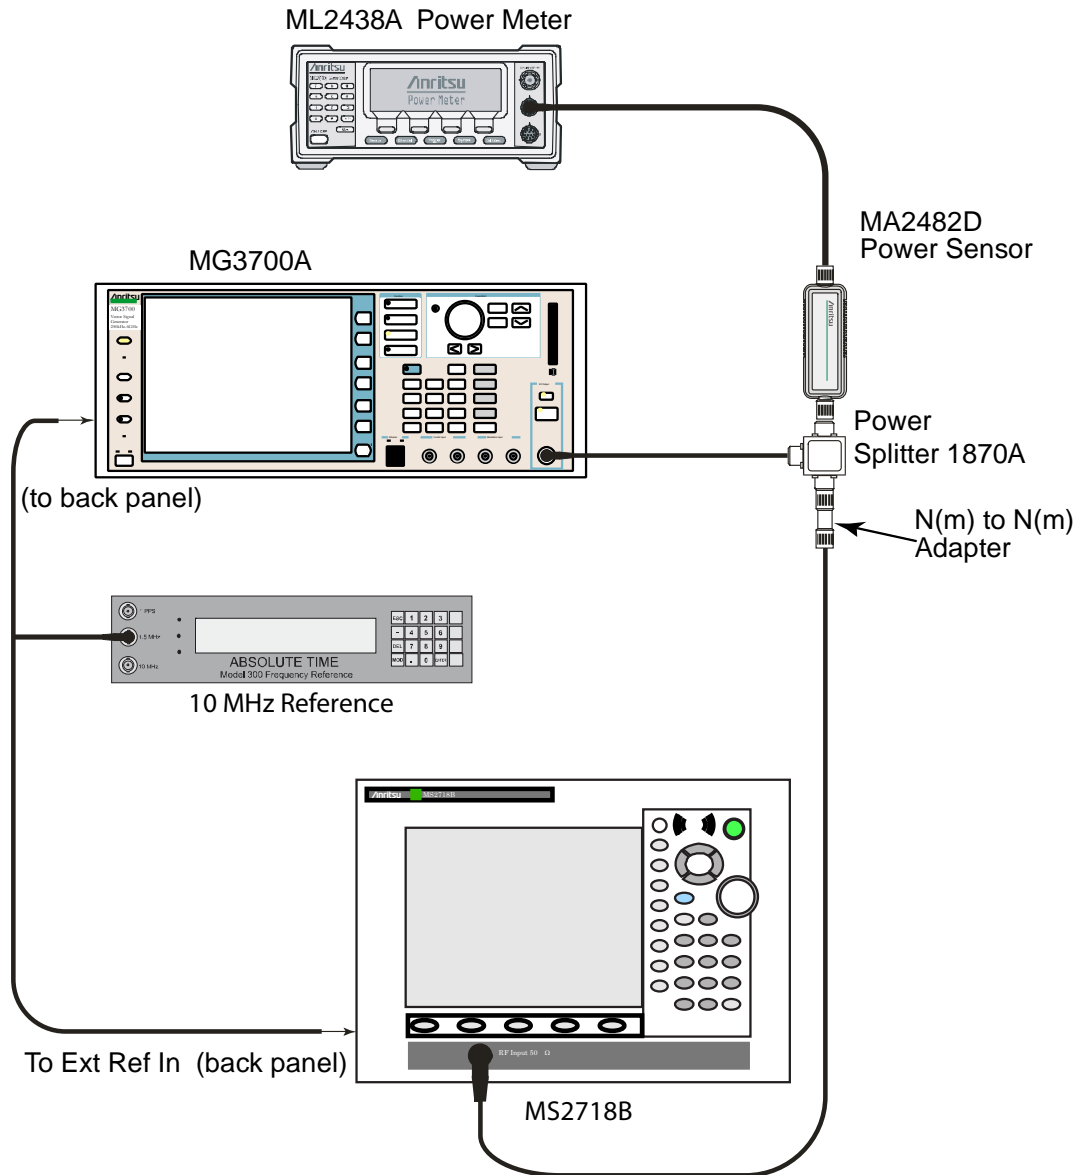

Figure 3-11. EVDO Signal Analyzer Test Setup
1. Connect the equipment as shown in Figure 3-11.